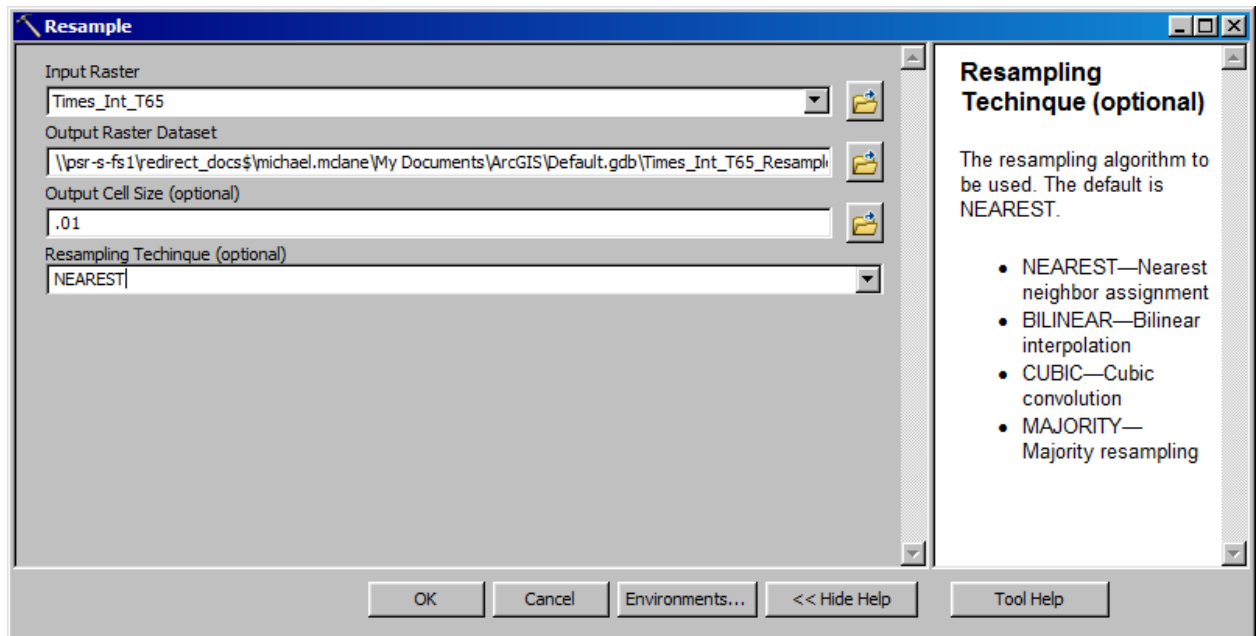

Figure 5 – Using the Raster Resample Tool
- b. The default output grid can be accepted as it once again is only a temporary grid and will be used as input for creation of the final output grid. See figure 5 below.